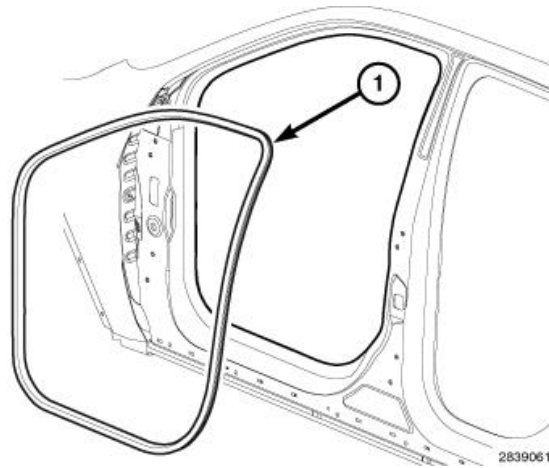

Figure 14 – Door Seal
24. Separate all four door seals (1) from the door frames and position aside (Figure 14).